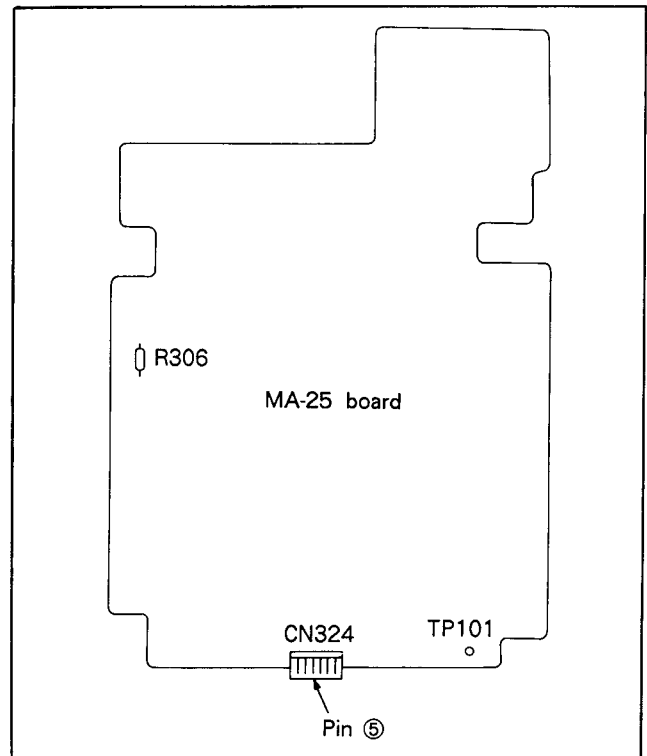

Fig. 7-55.
- 2) Short TP101 of the MA-25 board and Pin ⑤ of CN324. (See Fig.7-55.)
- 6) Select the PLAY mode and measure the voltage ( $V_o$ ) at both sides of R306 on the MA-25 board using a multitester (no load state). (See Fig. 7-55.)